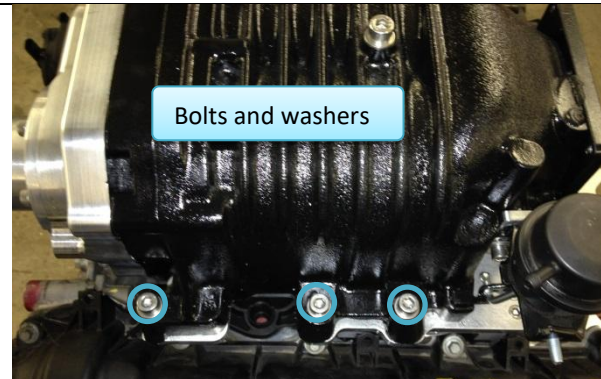
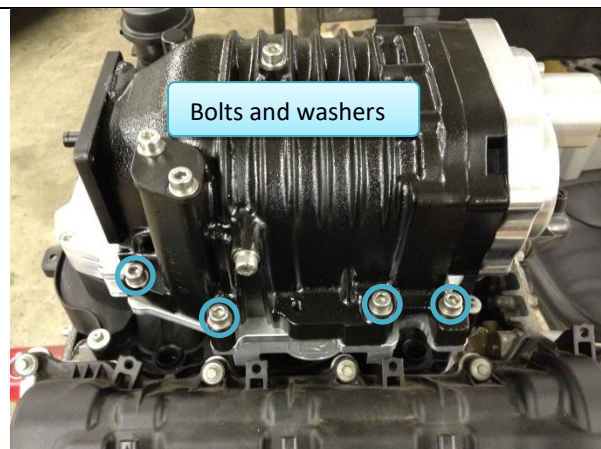

Figure 56: Bolts on driver side of supercharger.
Figure 57: Bolts on passenger side of supercharger.
34. Place super charger over gasket (Figure 56 and Figure 57)